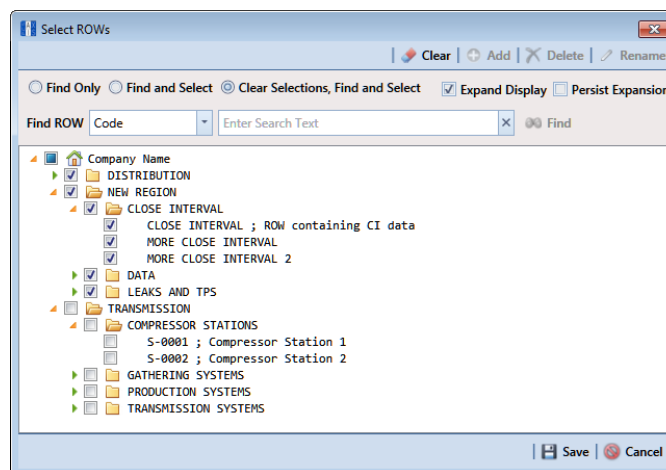

Figure 8-6. Select ROWs
- 1 Click the **Select ROWs** button  to open the *Select ROWs* window (Figure 8-6). Select one or more pipeline segments with facilities you want to include in the route. Click  **Save** to close the window.